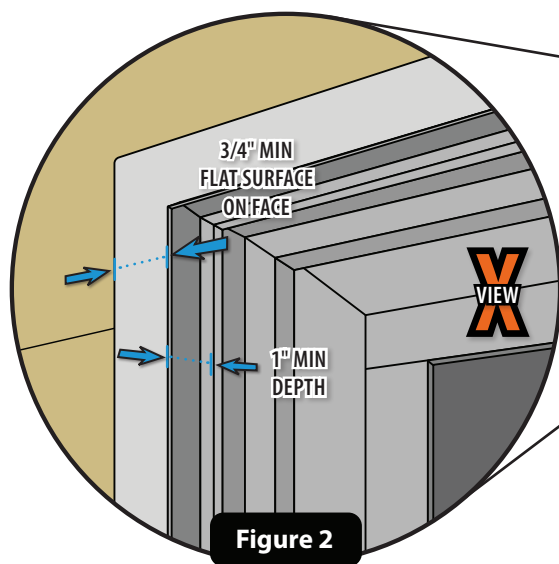

Figure 2
2. Make sure that the exterior trim meets the mounting surface requirements to accommodate the retractable insect screen assembly. The assembly needs 3/4" flat surface on exterior trim face and 1" minimum depth of mounting surface (see Figure 2).
- a2** Apply **Two-Sided Tape** on the backside of each **Jamb Shim** needed, at top, middle, and bottom and adhere them into the **Latch Side Frame Channel**. Center them top and bottom of the sliding patio door and positioning next to the **Exterior Edge** of the **Latch Side Channel** on the side of the door where the handle meets the house when closed (see **Figure 2**).
- From exterior view the right side is the **Active Panel** = mark Endcap C the Bottom (**Figure 2**)